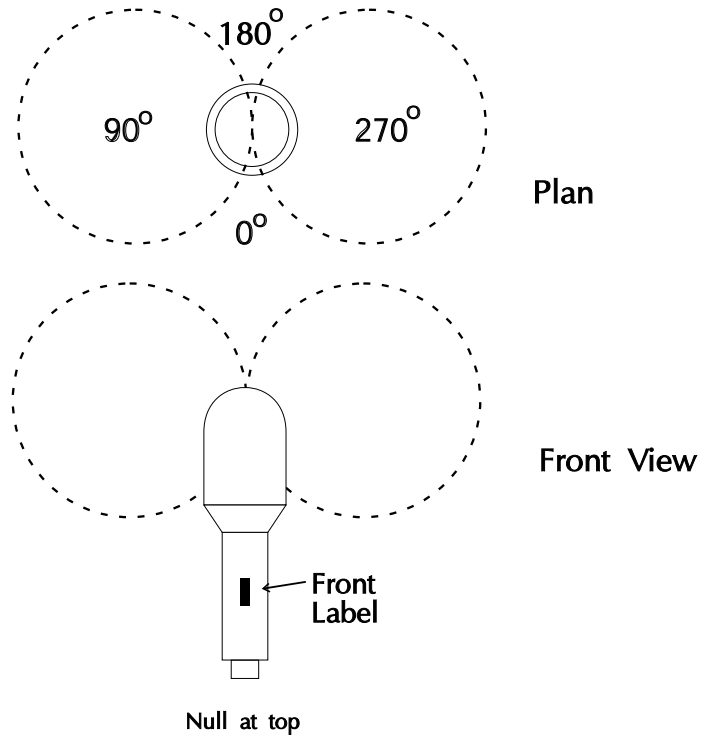
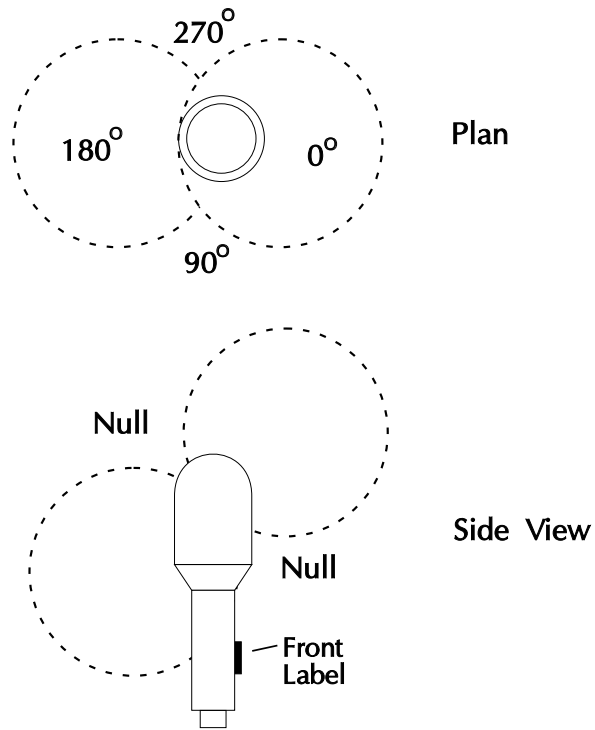

Figure 2: Figure of Eight: Angle = 180°, Azimuth, Elevation: 0°
Figure 3: Figure of Eight: Angle, Azimuth
- Test 2** Aim the microphone 90° to the right by rotating the azimuth control 90° clockwise - (see Figure 2 - Page 12)The signal peaks and null will have moved round 90° relative to the label.
- Test 7** Return the *azimuth* to 0° and turn *elevation* to +45°. The peaks should now be at +45° relative to microphone front and -45° relative to microphone back as in Figure 3.
Once this principle is understood, the required phase of the added signal to achieve a desired result can easily be determined by reference to the B-Format signal vectors (See Figure 2). For example, if the microphone requires to be tilted up, (elevation control) X' must now contain some +Z and Z' some -X, or tilted down, X' must contain some -Z and Z' some +X and so on (See Figure 3). Each of the 3 B-Format directional signals has a 'positive hemi-sphere' in which its vector lies, and an opposite 'negative hemi-sphere'.